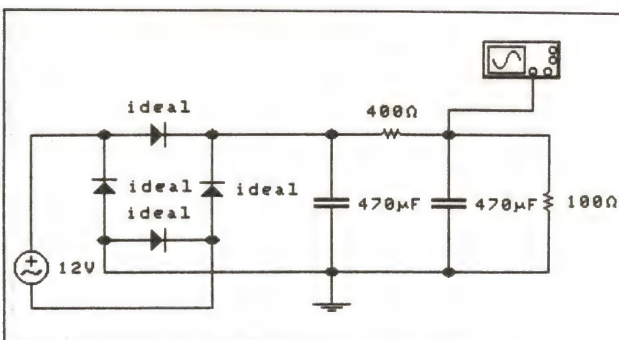

Fig. 3.33 Bridge rectifier with R-C smoothing filter.
7. Next, add an R-C filter to the circuit by connecting a 400Ω resistor in series with the d.c. output from the bridge rectifier and a second $470\mu\text{F}$ capacitor in parallel with the output (Fig. 3.33). Once again, note the shape of the output waveform and record the peak-peak ripple voltage in Table 3.4.